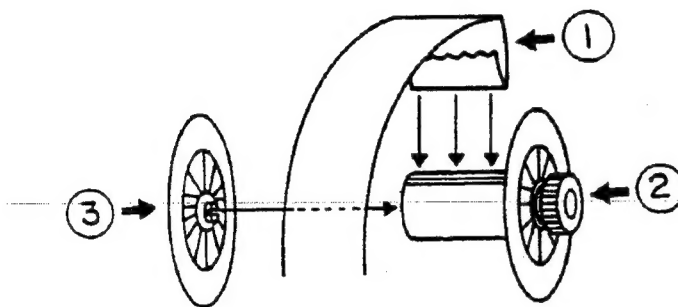

figure 2-3-5
- ③ Cut the receipt side paper.
- ④ Insert the journal side paper in the slit of the rewind spindle. Wind spindle 3 or 4 times.
Push disk ③ onto the spindle as shown in figure 2-3-5